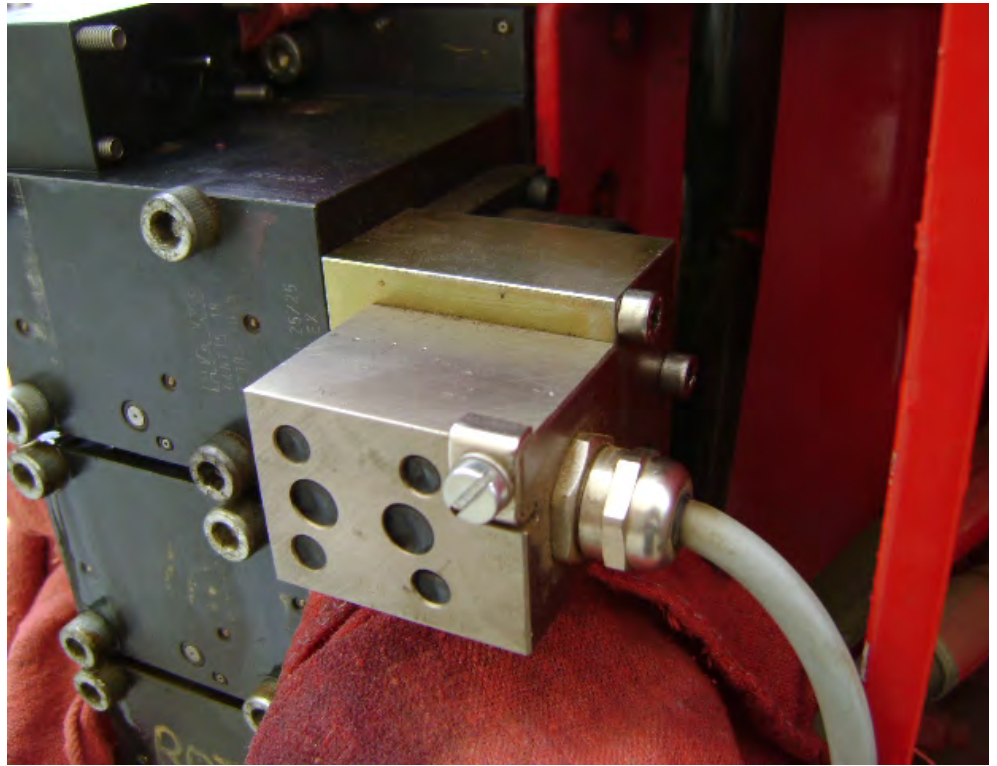

Figure 13
13. Install the new electric operator onto the valve body (Figure 13).